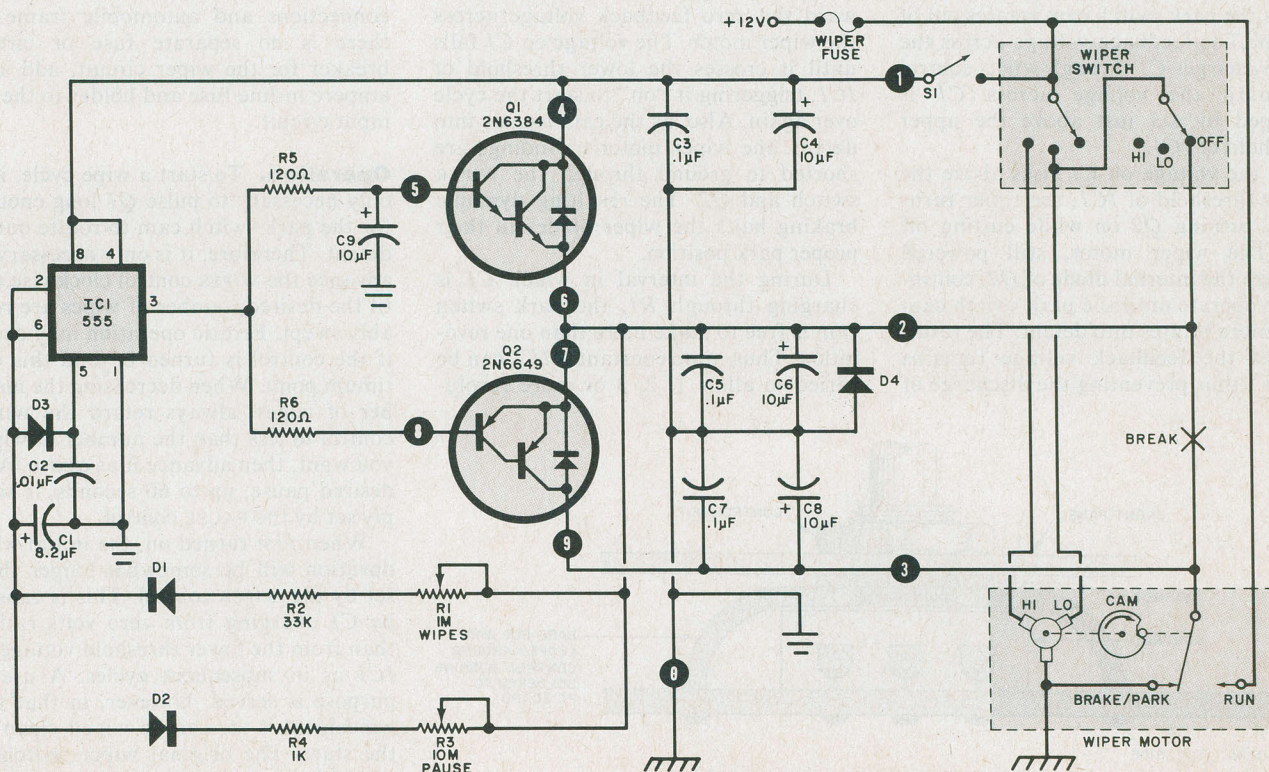

Fig. 2. The Auto-Wiper connects between the wiper switch and wiper motor after one lead is broken.
**How It Works.** As shown in Fig. 2, the 555 timer, *IC1*, configured as a gated astable multivibrator with independently adjustable "on" and "off" times, derives its feedback from the voltage across the wiper motor. This voltage, governed by the park switch, pulses in synchronization with the wiper blades. Hence, the timer is controlled by the wipers themselves in addition to its "on" (WIPES, *R1*) and "off" (PAUSE, *R3*) time constants.